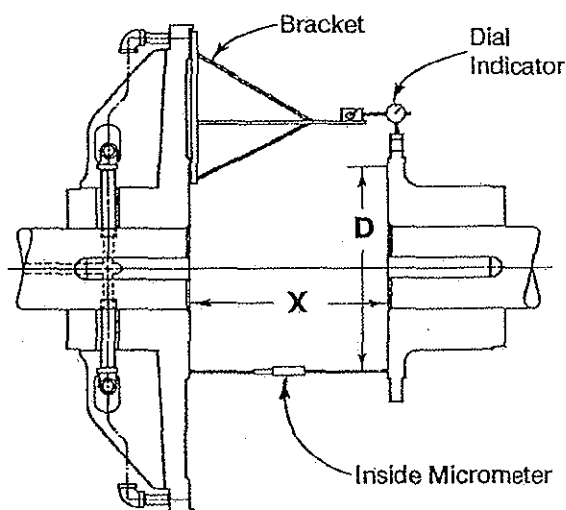

Fig. 8
Not to exceed 0.0005 inch per inch (.0005mm/mm) diameter at which readings are taken ("D" on Fig. 8).
- 2.4.1 Foundations must be set so distance "X", shown in Figure 8, is established. If the clutch is mounted on a shaft having plain bearings, make sure the shaft is centered within the bearings when establishing the "X" dimension. Refer to Table 2 for appropriate "X" dimensions.
TABLE 2 - "X" DIMENSIONS (FIG. 8)
- 2.4.2 Fabricate a rigid bracket for supporting a dial indicator and attach to the spider. See Figure 8.